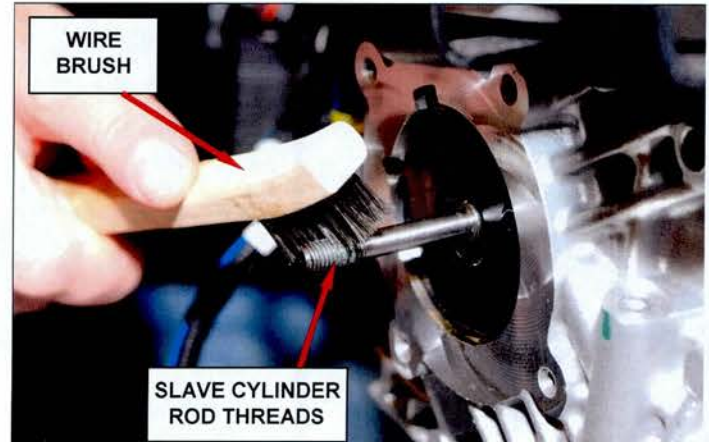

Figure 20 – Remove Thread Locking Compound
49. Using a small wire brush, carefully clean the old thread locking compound from the slave cylinder rod threads (Figure 20).